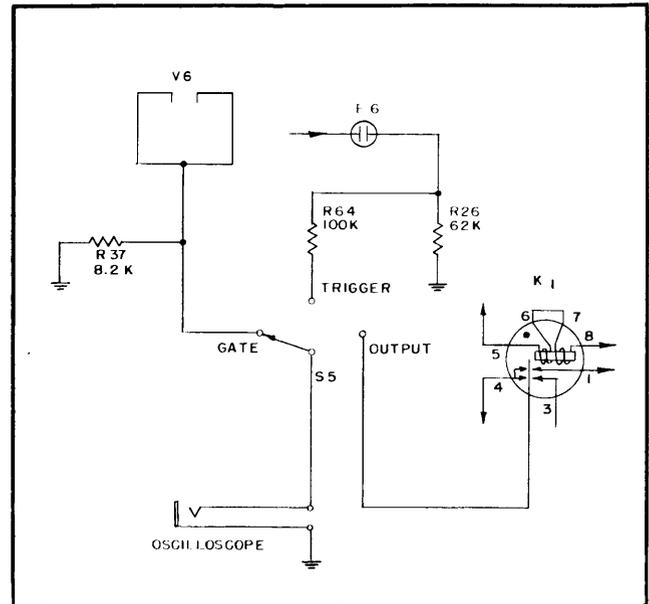

**Figure 2-8. SFO-2 Power Supply Circuit**
f. **POWER SUPPLY CIRCUIT.**—The power supply circuit is illustrated in Figure 2-8. A single power transformer T3 supplies filament and plate power for all tubes in the Regenerator. Tube V10 is a full wave rectifier whose output is filtered by reactor L1 and capacitors C31 and C30. All DC voltages used in the Regenerator are regulated. Regulating resistor R68 and tube VR1 provide plus 150 volts. Regulating resistor R67 and tubes VR3 and VR4 provide plus 225 volts and plus 75 volts. A regulated minus 75 volts is secured by connecting resistor R69 between the center tap of the high voltage winding and ground to secure a minus 117 volt drop, and regulating to 75 volts with series resistor R70 and tube VR2. Power switch S6 breaks both sides of the AC line to turn the Regenerator off. Both sides of the line are fused by F1 and F2. Capacitors C33 and C34 bypass either side of the AC line to ground to prevent radiation of noise voltages into the line.